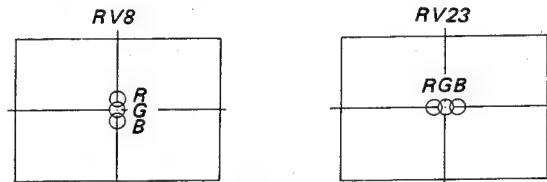

Fig. 1-11.
2. Adjust RV23 and RV8 on the DB board to coincide with R, G and B dots at the center of the screen as shown in Fig. 1-11.